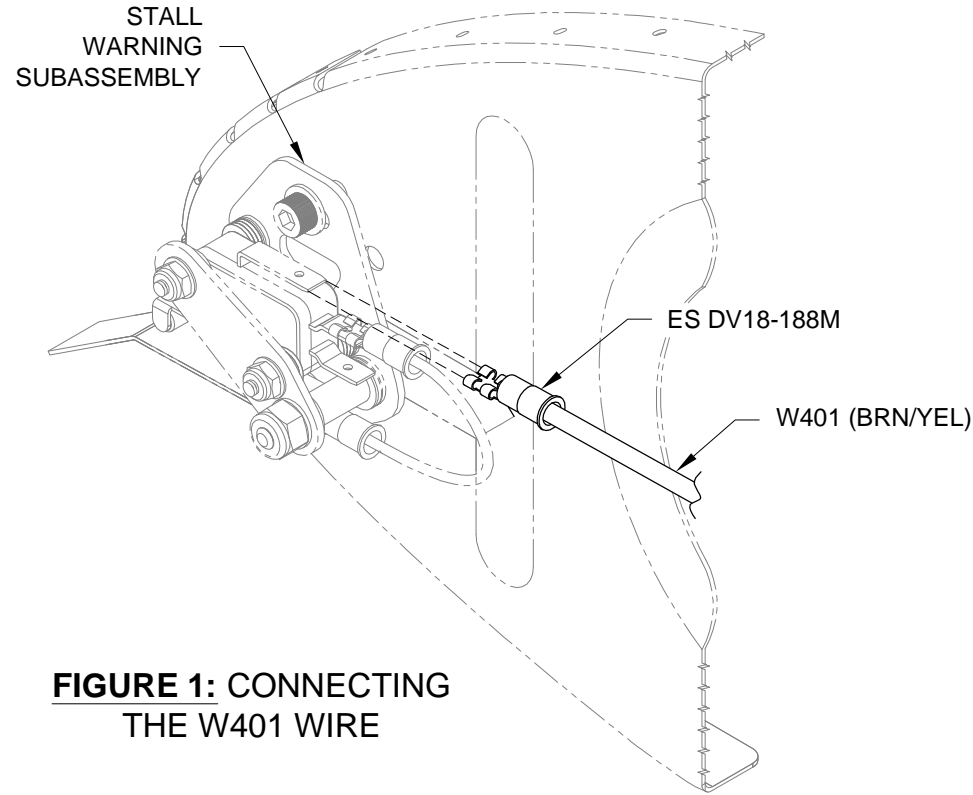

FIGURE 1: CONNECTING THE W401 WIRE
Step 1: Strip the W401 (BRN/YEL) wire (routed, coiled and stowed per Page 19-03, Step 2) then crimp on the ES DV18-188M female spade terminal as shown in Figure 1.
Connect the W401 (BRN/YEL) wire to the COM (Common) terminal of the Stall Warning Subassembly as shown in Figure 1.
Step 1: Label the AP Servo Harness, Molex Connectors and the ES-00045 Molex Receptacle, Position Micro-Fit as shown on Page 19-05, Figure 1.
Step 2: Route all wires from the WH-00013 AP Servo Harness outboard through the wing ribs as shown in Figure 1 and Detail A.